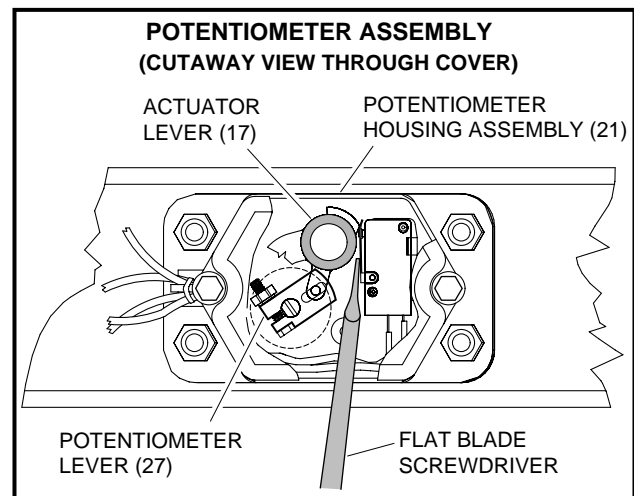

Figure 5-29 Potentiometer Assembly
4. Rotate the potentiometer lever (25) clockwise until lever fork is at the two o'clock position (**Figure 5-29, Page 5-21**). The lever must be at approximately two o'clock in order for it to mate with the alignment pin on the actuator lever.
5. Rotate the actuator lever until its alignment pin is aligned with the slot in the potentiometer lever fork (**Figure 5-29, Page 5-21**), then slide the actuator lever toward the potentiometer housing. **See following CAUTION.**
- DO NOT BEND THE LIMIT SWITCH LEVER. THE CAM ON THE ACTUATOR LEVER SHOULD BE AT THE TWO O'CLOCK POSITION WHEN THE ACTUATOR LEVER IS IN POSITION TO MATE WITH THE POTENTIOMETER LEVER, ALLOWING THE ACTUATOR LEVER TO SLIDE PAST THE LIMIT SWITCH LEVER. IT MAY BE NECESSARY TO HOLD THE LIMIT SWITCH LEVER BACK WITH A FLAT BLADE SCREWDRIVER (**FIGURE 5-29, PAGE 5-21**).